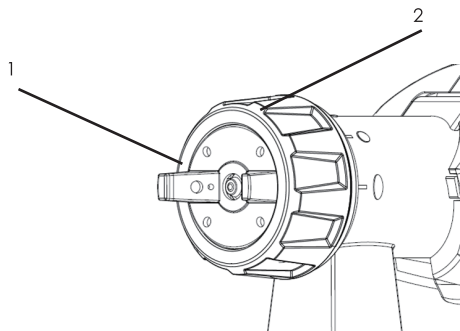

Fig.4
3) Adjusting the desired Spray Setting (Fig. 4)